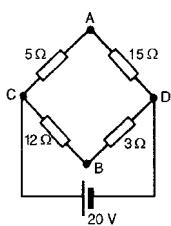

Figure 13.33
- (vii) To find the voltage across AB in Fig. 13.33: Since the 20 V supply is across the 5Ω and 15Ω resistors in series then, by voltage division, the voltage drop across AC,